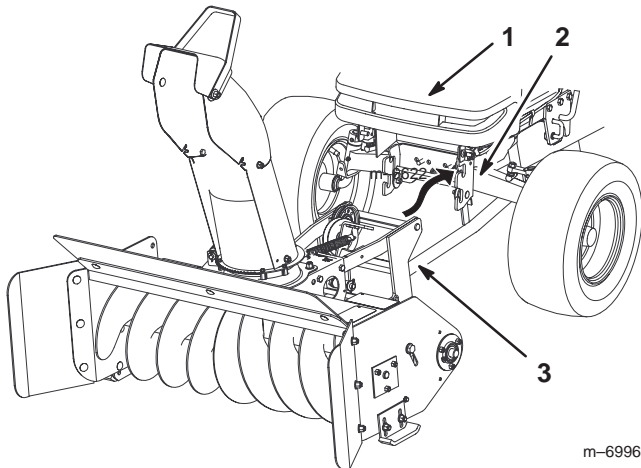

Figure 15
4. Slide the snowthrower mounting frame into the top front hitch slot. Close and lock the front hitch (Fig. 15).